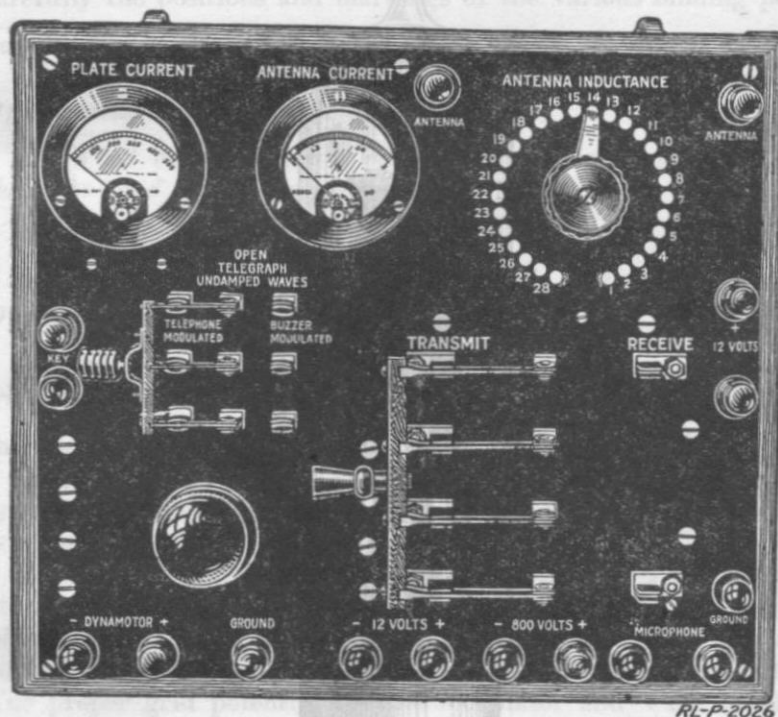

Fig. 101.—Front panel of transmitter set box, type BC-86A.
The BD-86-A set box (see Fig. 101) contains the necessary apparatus for the three methods of transmission. At the upper left-hand corner of the front panel is a milliammeter which indicates the plate current of the vacuum tubes used in the transmitter. To the right of this meter is a thermoammeter, which indicates the antenna current. In the upper right-hand corner is a 28-point dial switch controlling the number of turns of inductance included in the antenna circuit, and hence controlling the transmitted wave length. Below this dial switch is a large four-pole, double-switch
1. Examine the panel of the BC-86-A (see Fig. 101), and note the marking of the various switches, knobs, and controls. Also observe carefully the positions and markings of the various binding posts.